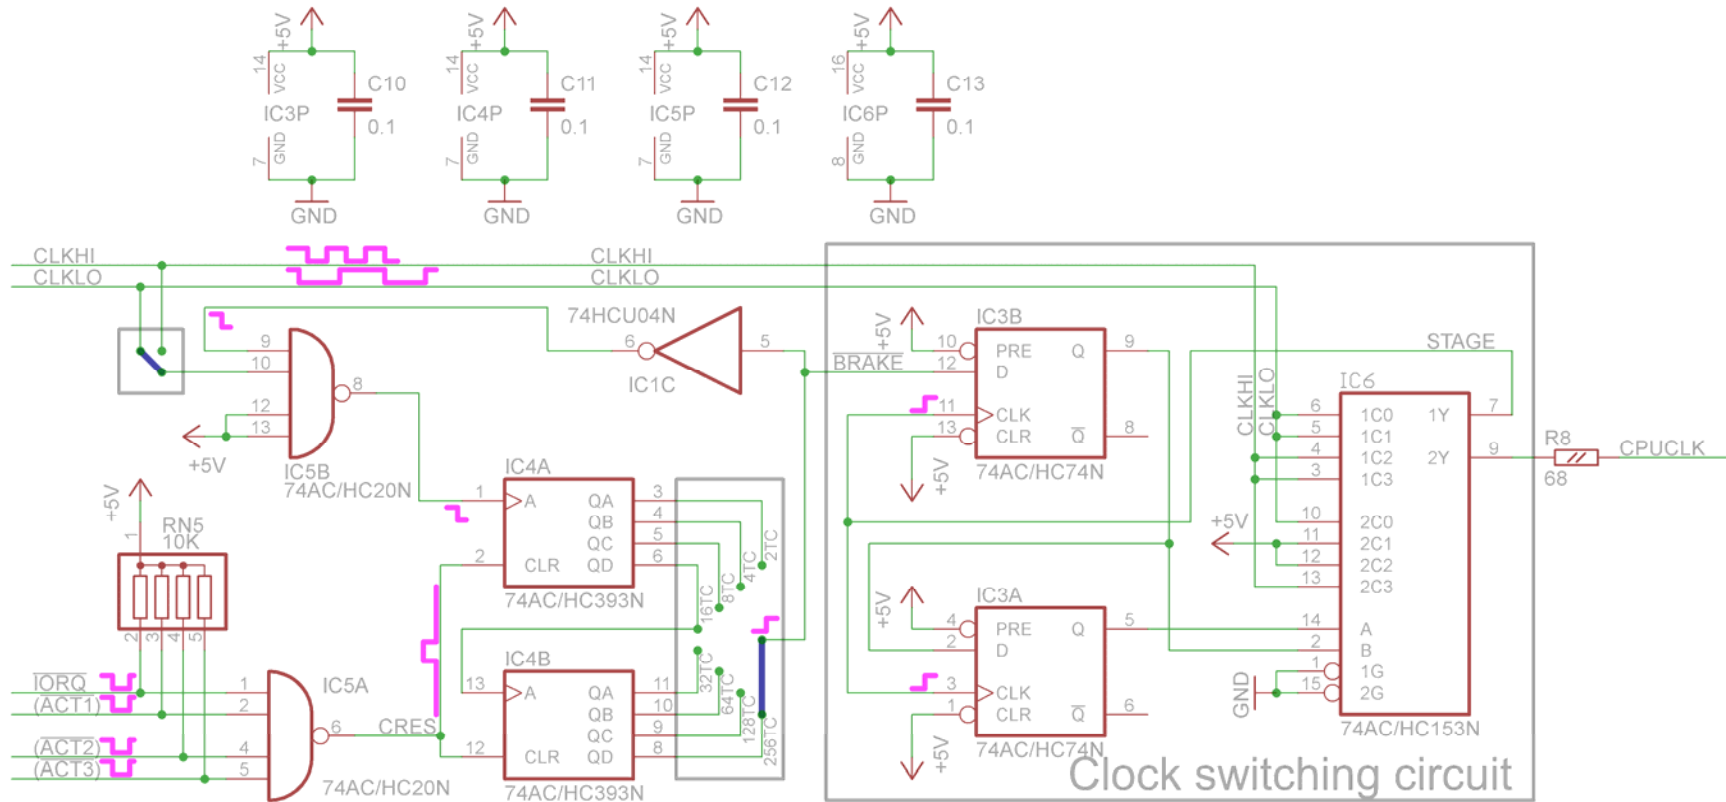
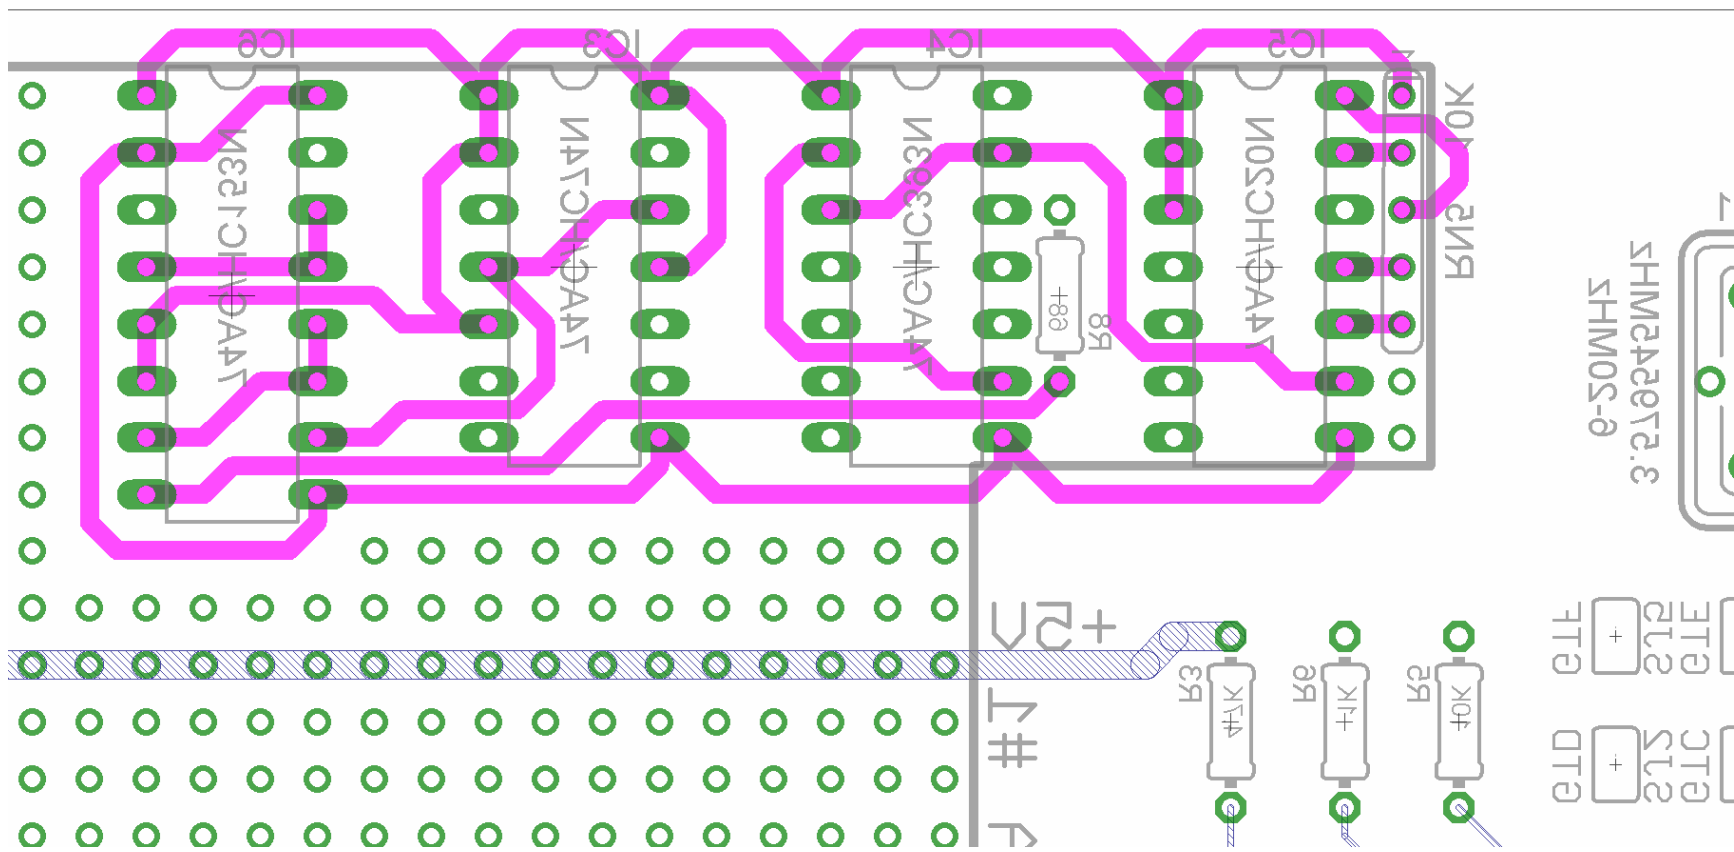
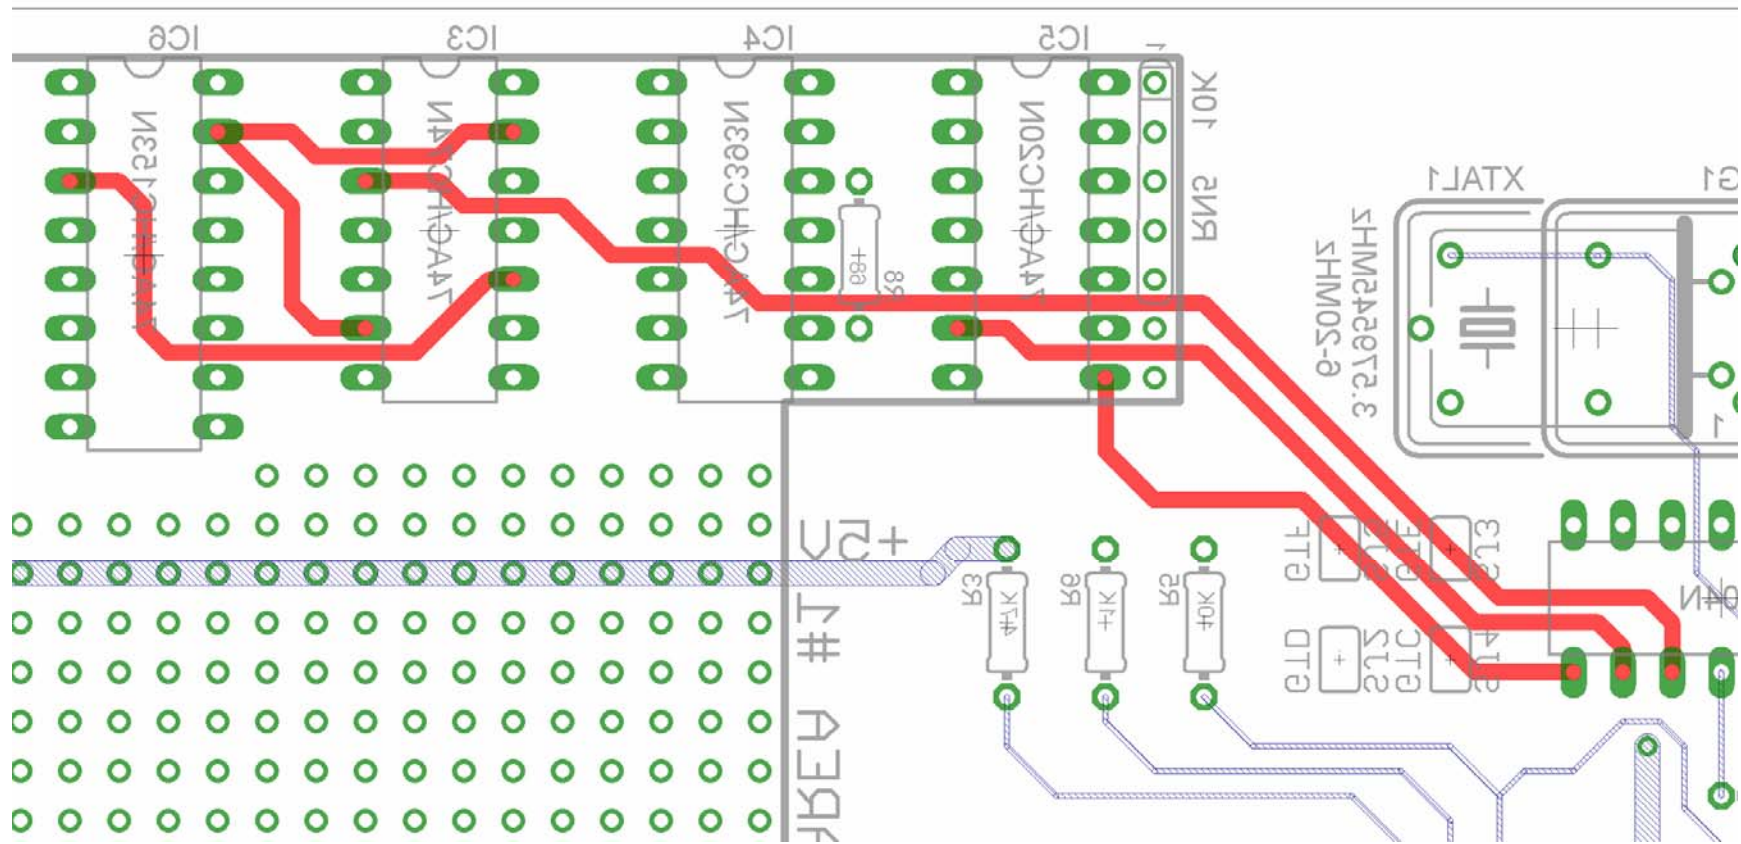

Figure 2. Schematic of the *braking* circuit. Input signals are on the left (2+4), and output is on the right (1)
Figure 3. Soldering short air-wires (view from the solder side)
Figure 4. Soldering remaining short air-wires and connecting with IC1 (view from the solder side)
Let's look onto fig. 2. There're six input signals for the braking circuit in this implementation –
- Solder sockets for IC3, IC4, IC5 and IC6, RN5 and R8, and connect them as shown on fig. 3, fig. 4 and fig. 5. Please pay attention to the dashed wires, which show maximal (in terms of length of braking period of time) configuration. You can choose different settings according to the circuit diagram on fig. 2;